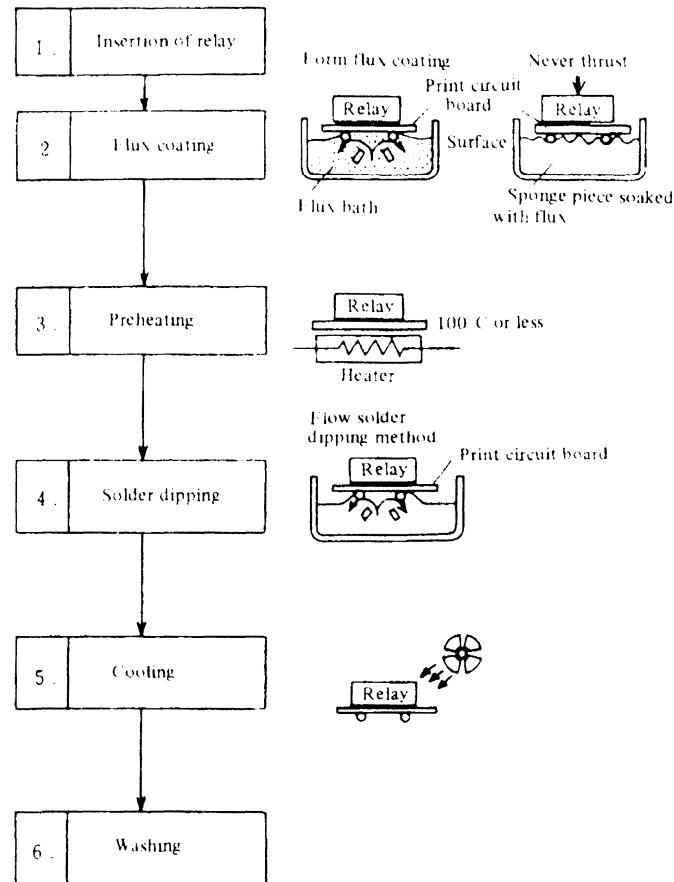

Fig. 2.26 Automatic soldering process
(1) Comply with the procedure represented in Fig. 2.26.
(2) Insertion of relay
- 1) Our recommendation is the adoption of flow solder dipping method represented in Fig. 2.26.